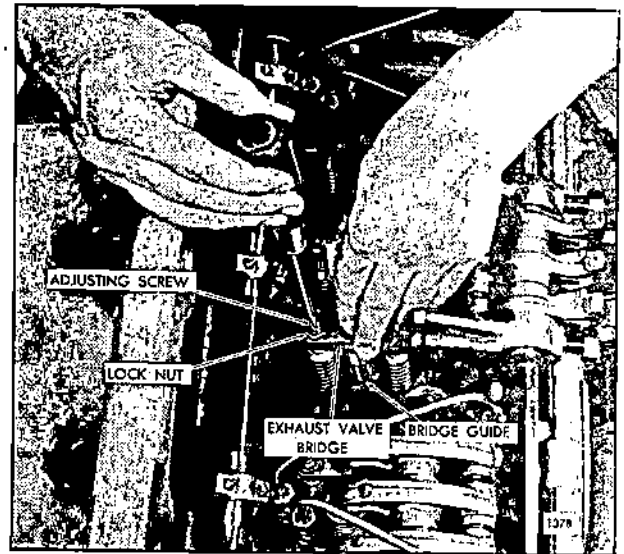

Fig. 2 - Valve Bridge Adjustment
2. Remove the exhaust valve bridge. See Fig. 2.